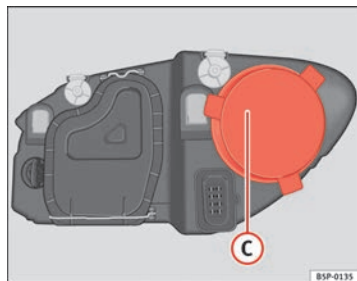

Fig. 167 Main beam headlights
- Remove the cover ⇒ fig. 167 C by pulling on this.